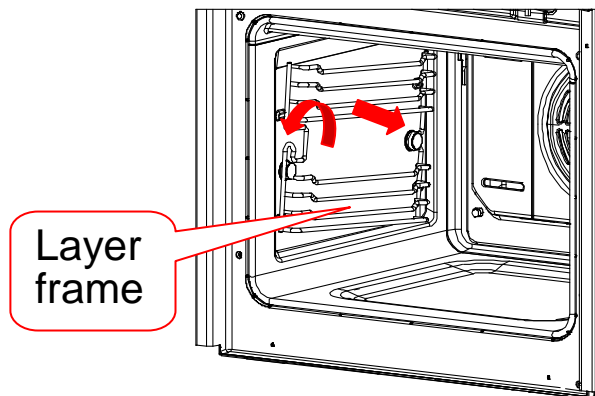

Figure 1
A. Installation around layer frame (see figure 1):